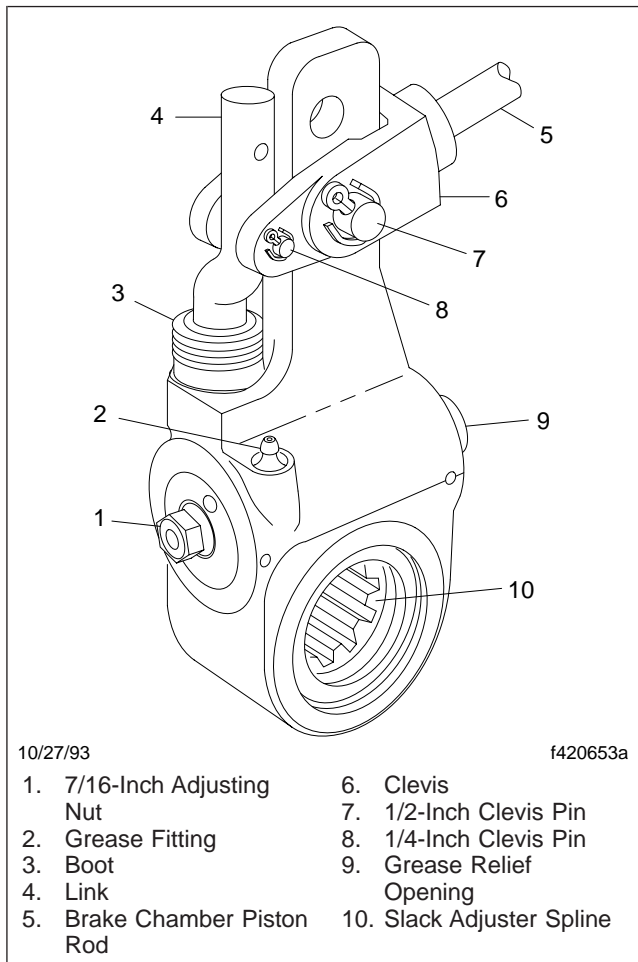

Fig. 6, Gunite Automatic Slack Adjuster
1. Lubricate the slack adjuster until grease flows from the grease relief opening. See Fig. 6. For temperatures to -40°F (-40°C), use Lubriplate Aero; for temperatures to -20°F (-29°C), use Texaco Multifak EP-2 or MobilGrease No. 77.
3. Inspect the slack adjuster boot for cuts or tears. If the boot is damaged, replace it as follows (see Fig. 6).